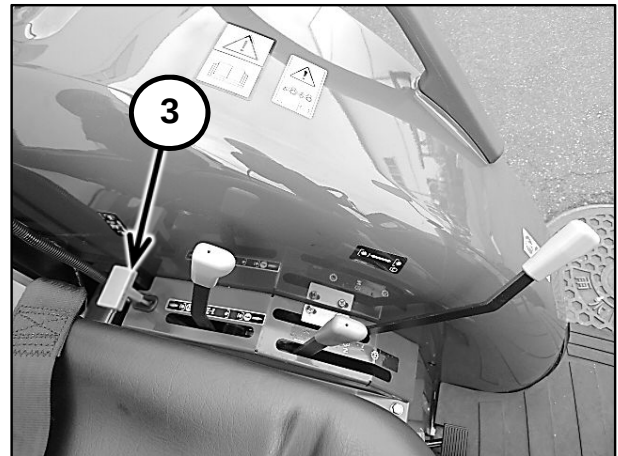

Figure 2-36
The MID PTO control lever (3) in Figure 2-36 is located by the left-hand fender. To engage the MID PTO, pull the lever fully upward. To disengage the MID-PTO, push the lever fully downward.